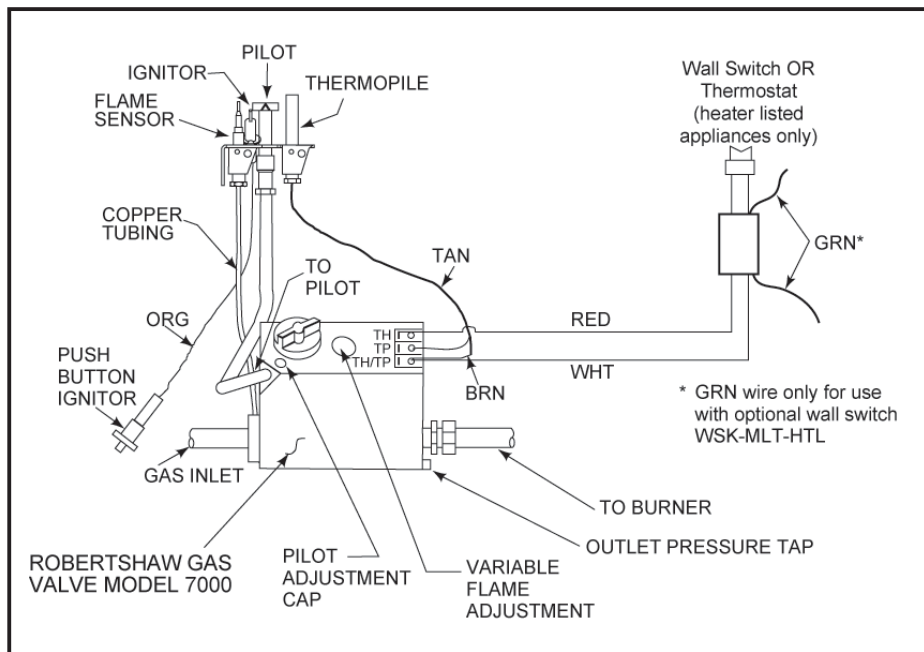

Figure 37 - Standing Pilot Ignition Wiring Diagram
- 2) Only heater listed appliances may be connected to a thermostat (not supplied). Use a thermostat that is compatible with a millivolt gas valve. See Figure 37.